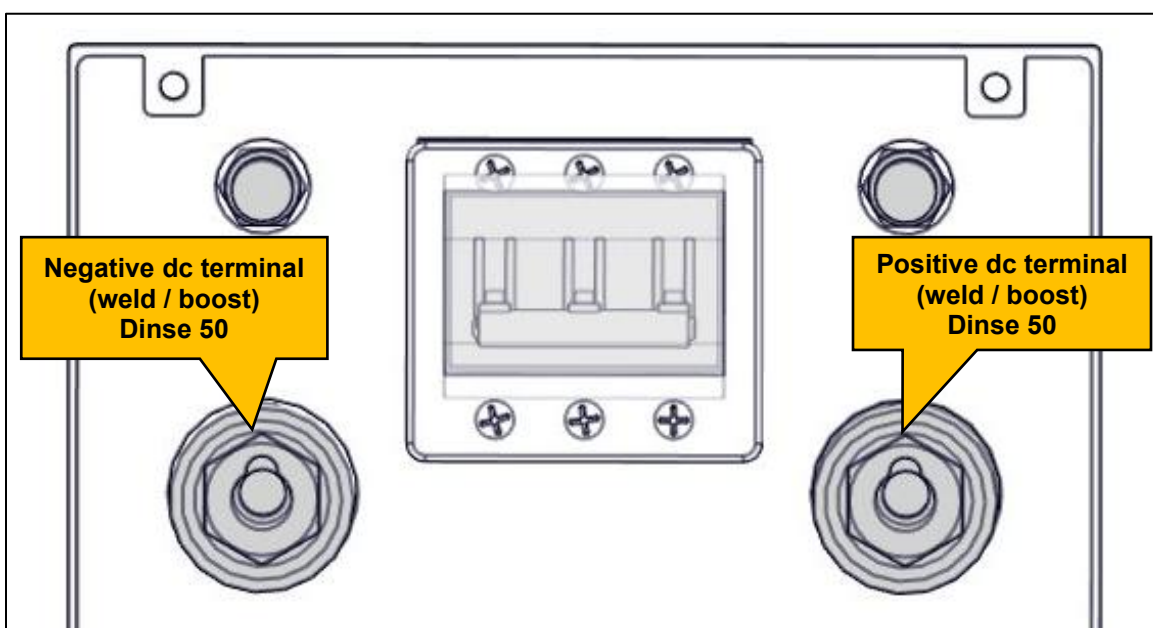

Figure 4
- ☐ Measure the open circuit dc voltage using multimeter probes between the positive and negative Dinse 50 weld terminals in each of the weld settings listed in Table 3 (Figure 4)